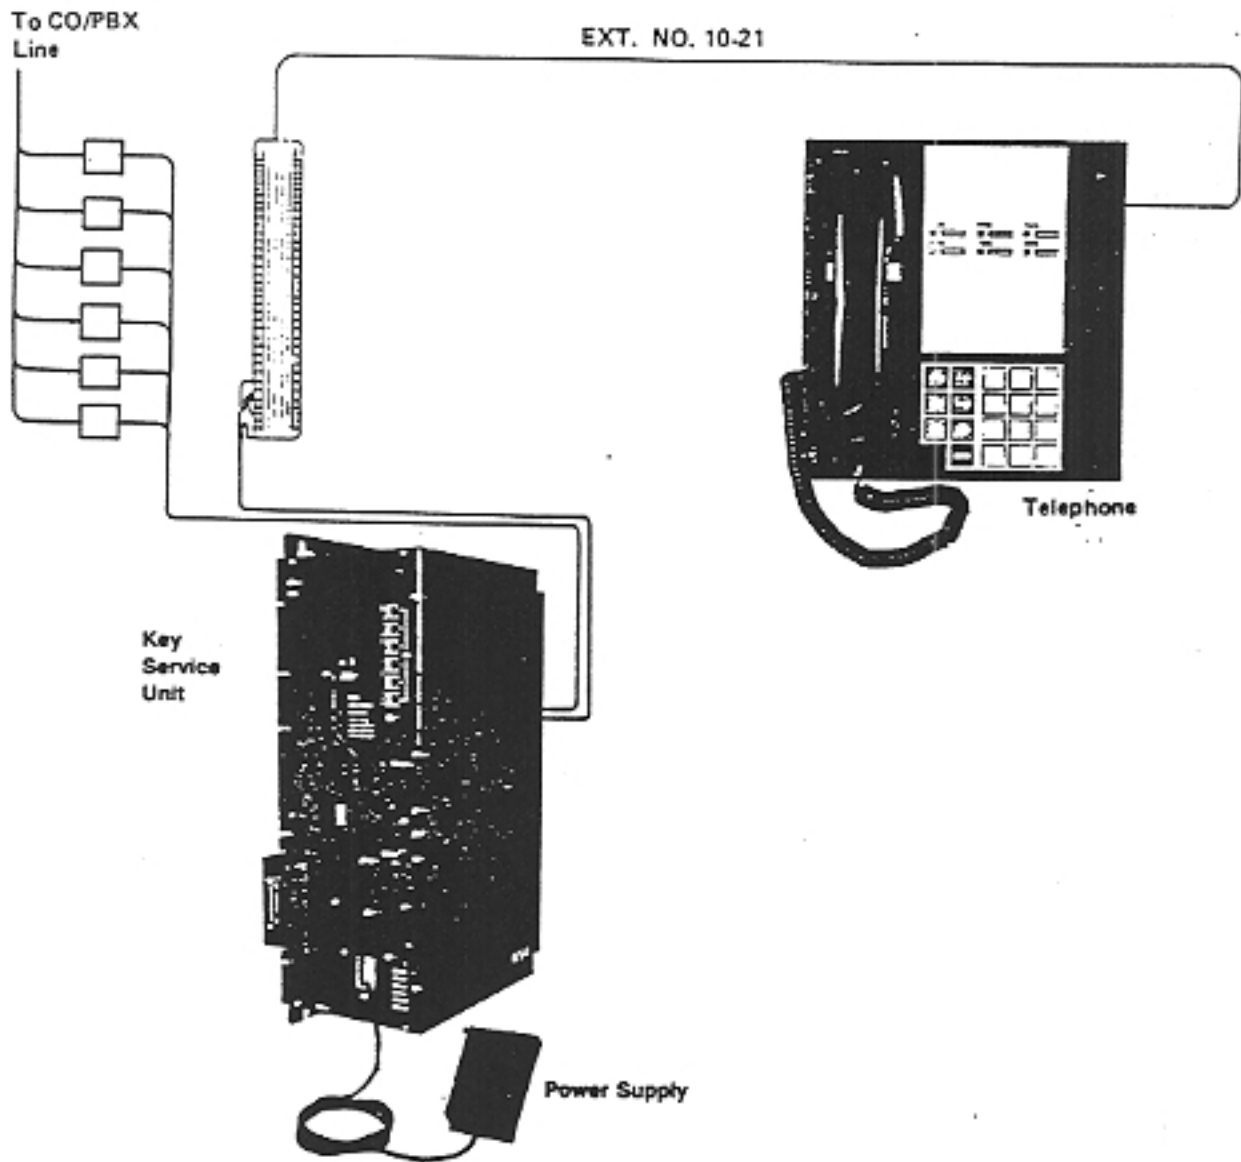
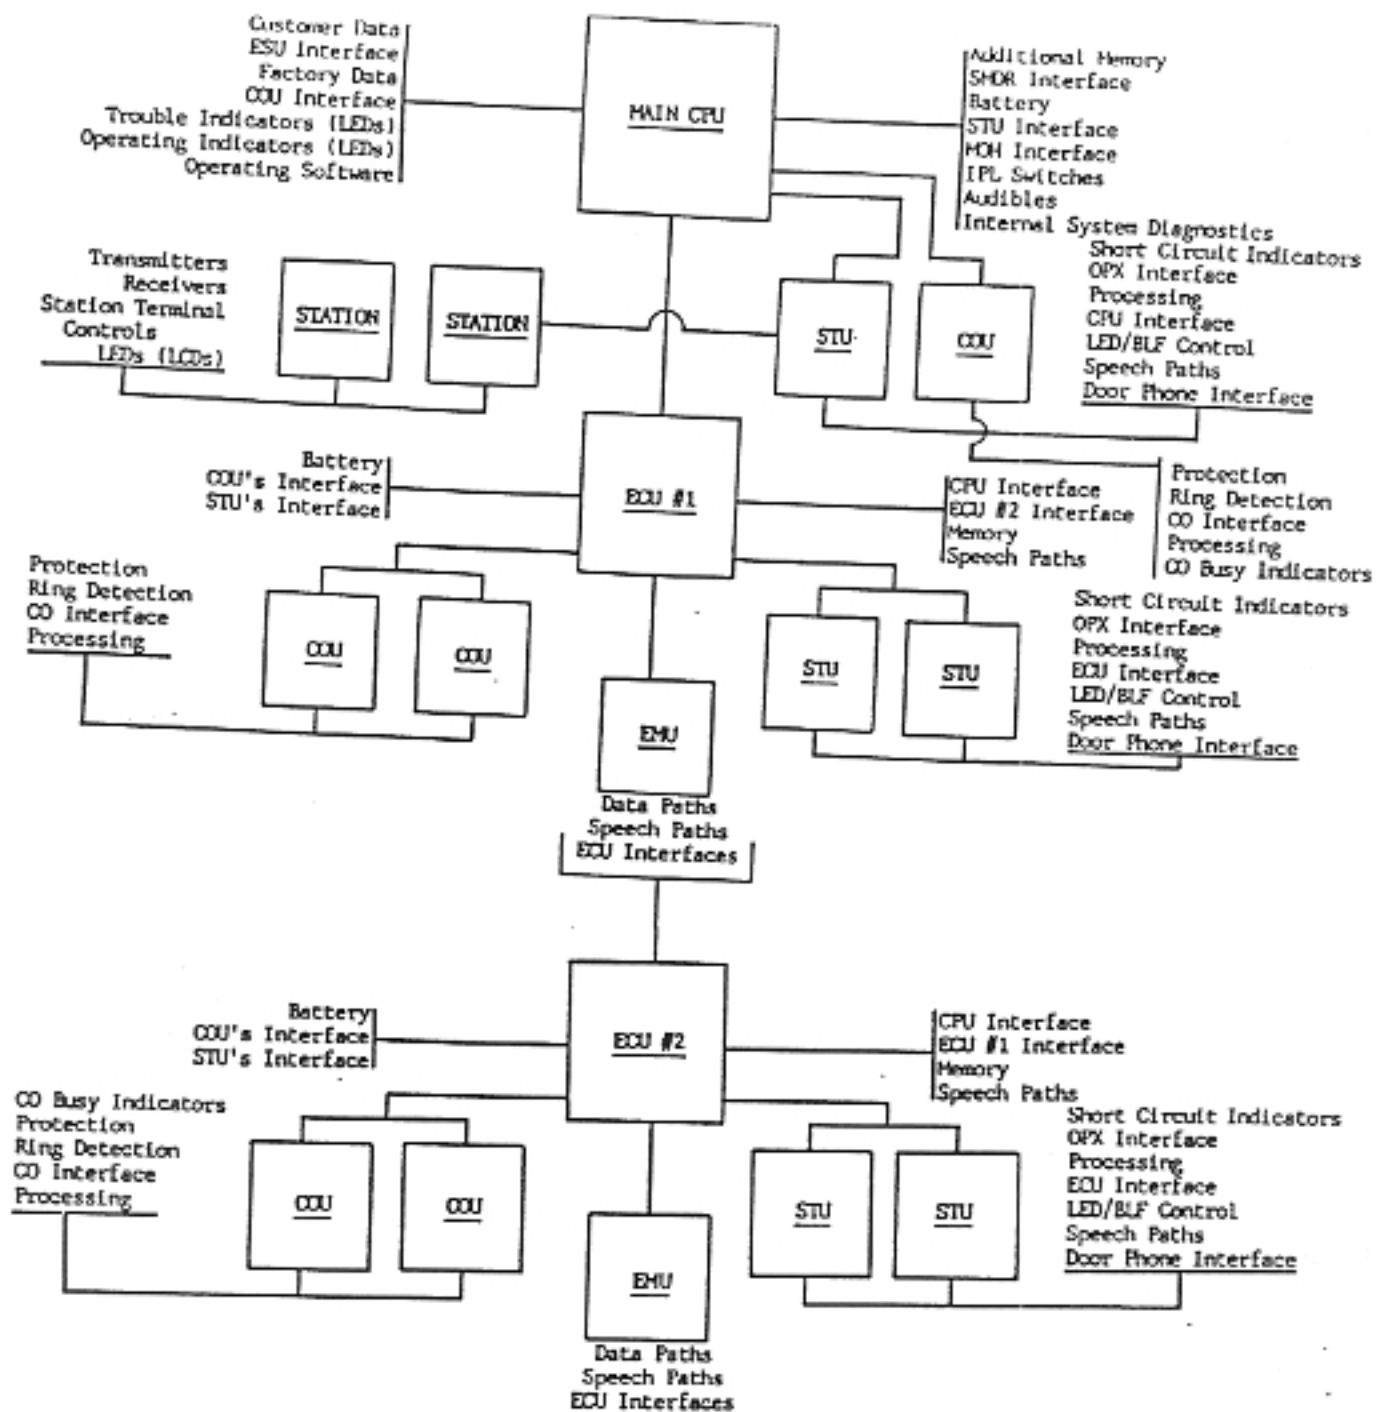

Figure 1-1 MARATHON Electronic Key Telephone System (KSU)
Figure 1-3 Basic System Electronic Architecture
The MARATHON Key Service Unit (KSU) is equipped with printed wiring boards to support a maximum of six Central Office (CO) lines, 12 stations, and two intercom (ICM) paths. (Refer to Figure 1-1 and Figure 1-3.)
(Refer to Figure 1-1 and Figure 1-3.)